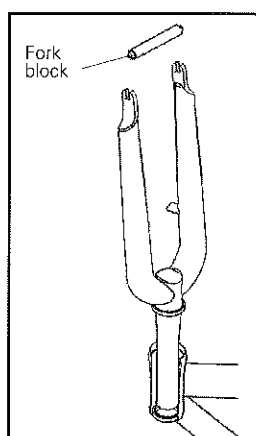

Fig. 55
21. Insert the steerer into the head tube and upper bearing (Fig. 55).